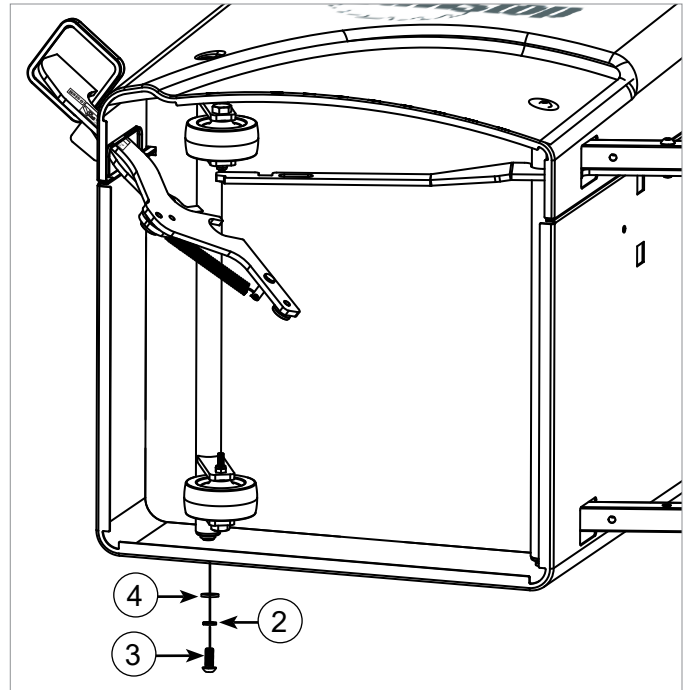

Fig. 12
12. Insert the mounting shoulder on the rear end of the wheel assembly through the mounting hole on the rear of the cabinet and secure that end to the cabinet with one M8 x 20 button head socket bolt, one M8 x 13.6 lock washer, and one M8 x 18 washer (see Fig. 12). Fully tighten the bolt using a 5 mm hex key.